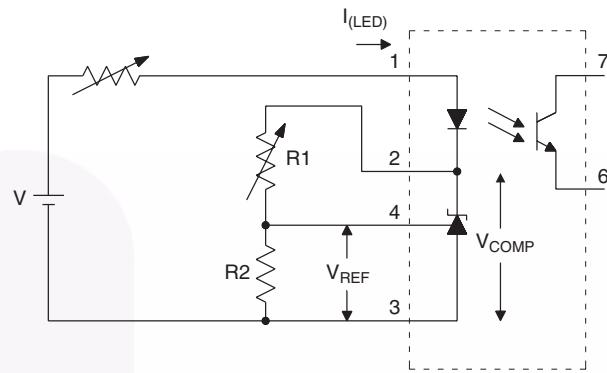

Figure 2. $\Delta V_{REF}/\Delta V_{COMP}$ Test Circuit
3. The dynamic impedance is defined as $|Z_{OUT}| = \Delta V_{COMP}/\Delta I_{LED}$. When the device is operating with two external resistors (see Figure 2), the total dynamic impedance of the circuit is given by: